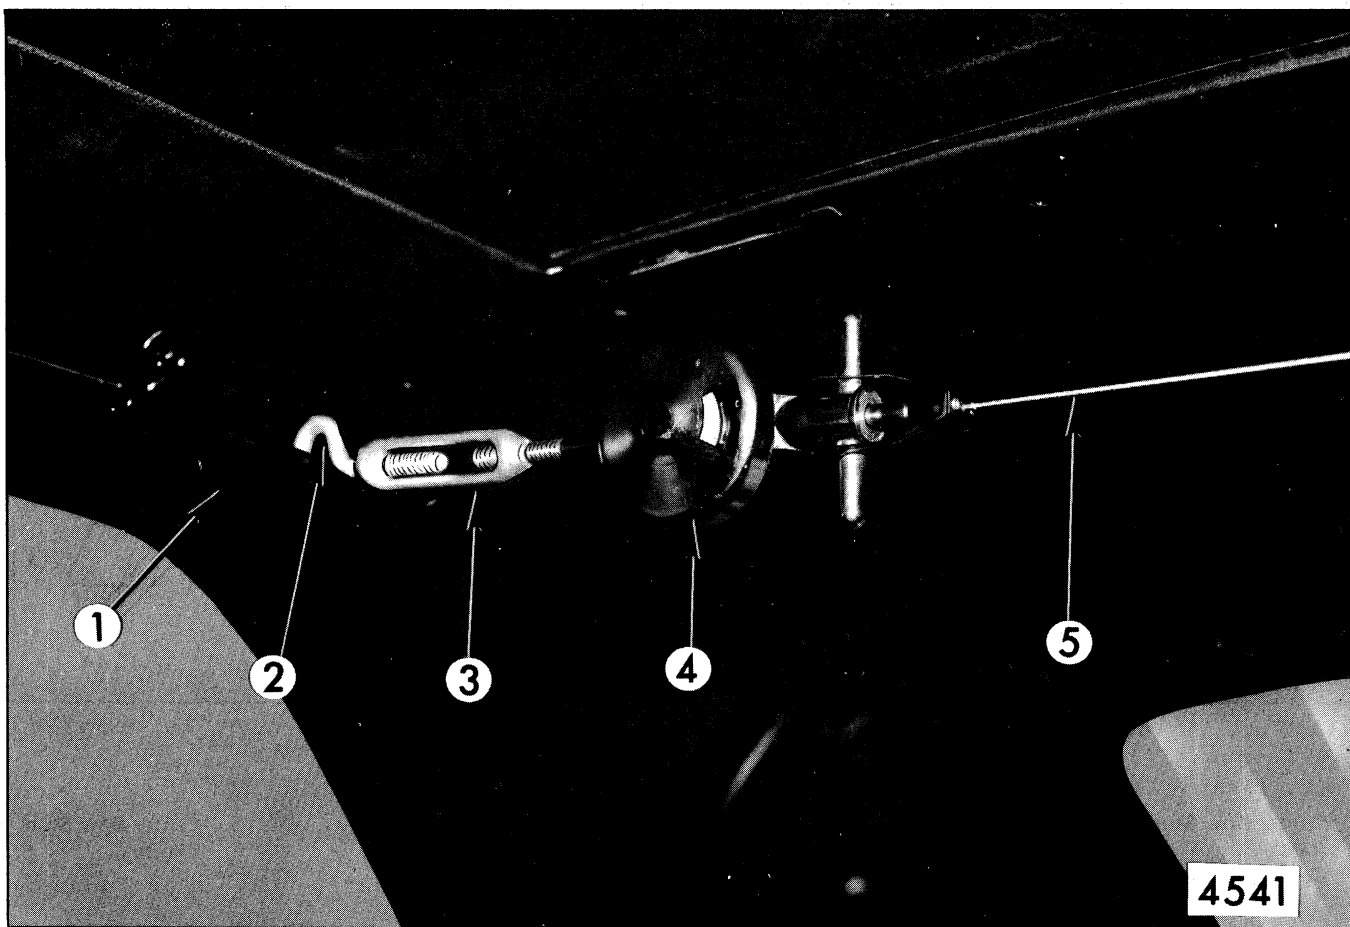

Fig. 8-108-Inward Folding Top Tension Checking Tool
1. With top raised and locked at windshield header, mount tension checking tool (J-23790, BT-7III or equivalent) on each inner rear rail at center bow (Fig. 8-108).